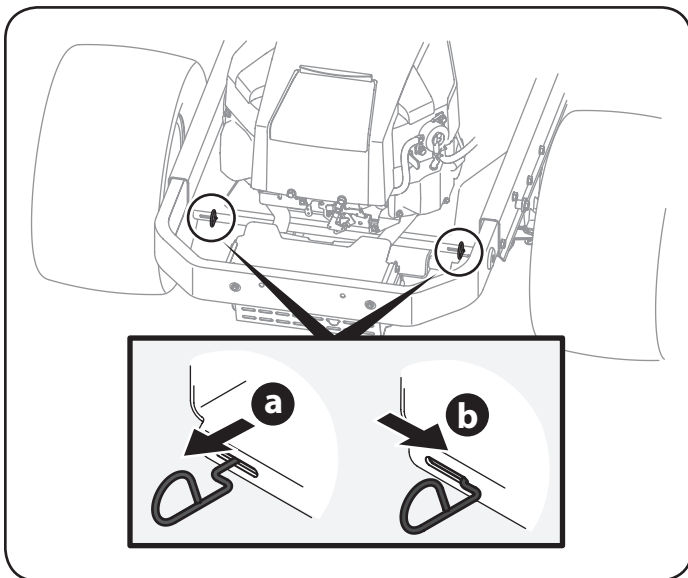

Figure 1
1. Locate the hydrostatic bypass rod in the rear of the riding mower. See "Figure 1".
2. Engage the bypass rods by pulling each one out (a) and to the right (b) to lock it into place. See "Figure 1".
3. Disengage the bypass rods by reversing steps a & b after moving the tractor. See "Figure 1".